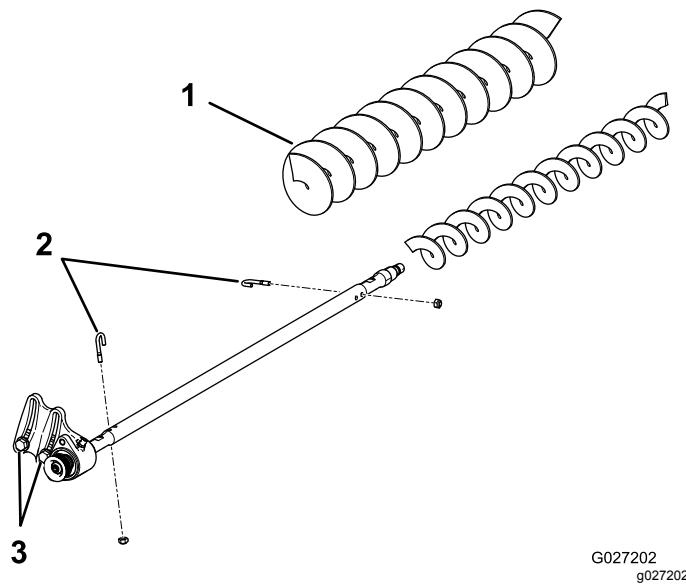

Figure 20
3. Remove the 2 J-bolts and the nuts (Figure 20).
4. Slide the existing brush off the brush shaft (Figure 20).
5. Loosen the 2 bolts, washers, and nuts securing the drive-bearing housing to the bearing-housing mounting bracket (Figure 20).
6. Slide the high height-of-cut brush onto the brush shaft (Figure 20).
7. Clamp the brush onto the shaft with the 2 J-bolts and nuts previously removed (Figure 20).